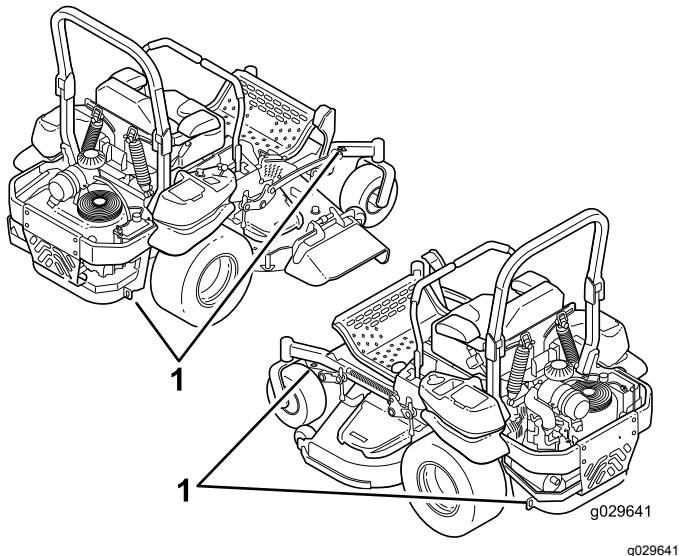

Figure 40
5. Use the tie-down loops on the machine to securely fasten it to the trailer or truck with straps, chains, cable, or ropes (Figure 40).